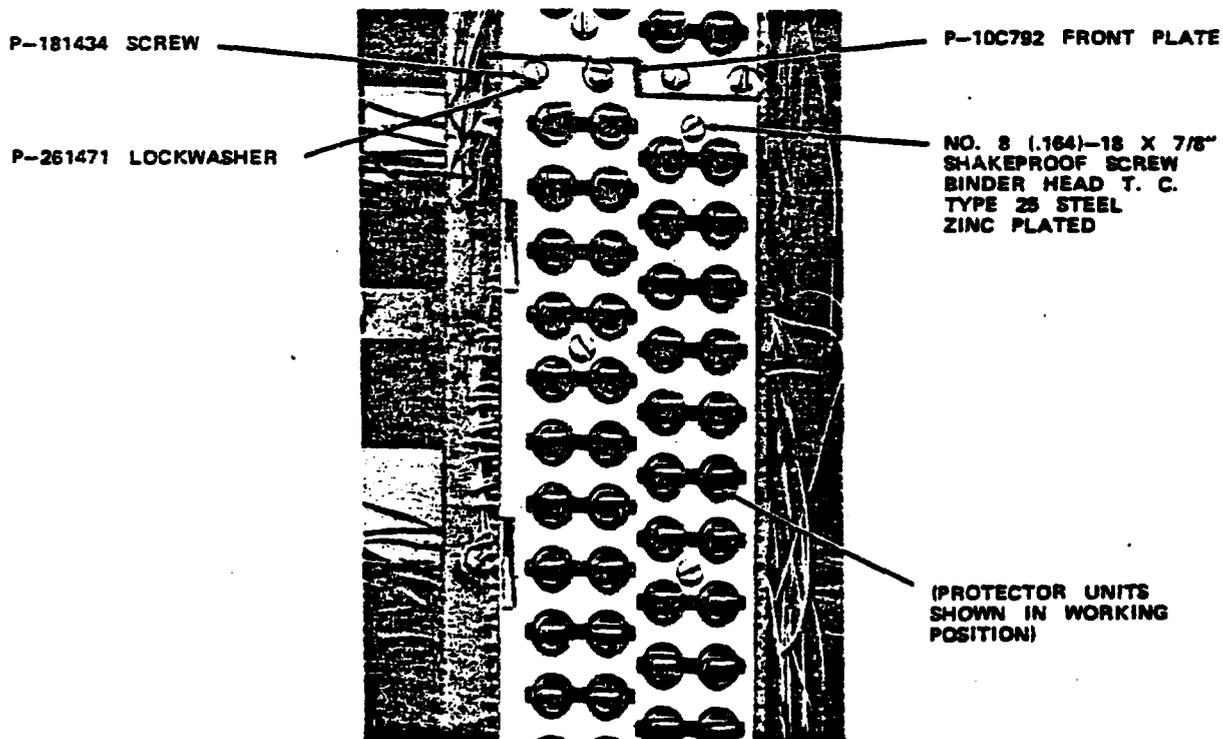
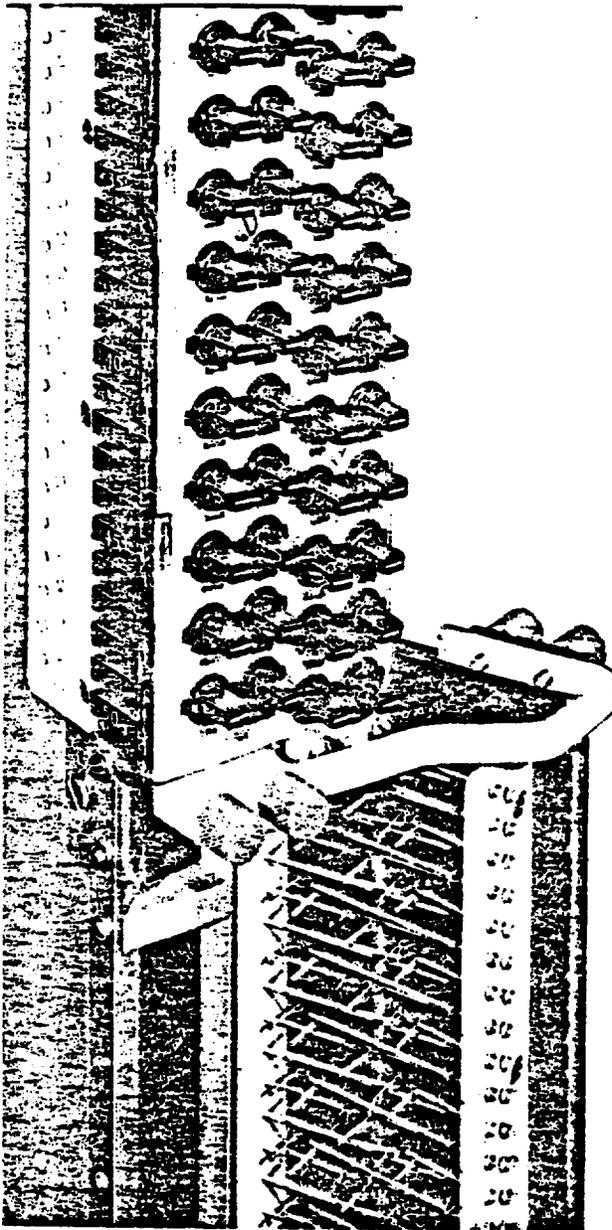

Fig. 1—Front View of Connector
Fig. 2—738 Bracket Supporting a 300-Type Connector
1.08 A design change on the 300-type connector eliminates the aluminum finger-type holders (Fig. 1) and replaces it with a prestenciled holder which is molded as a part of the phenolic block (Fig. 2).
3.01 A front view of the 300-type connector and replaceable parts are shown in Fig. 1. Internal parts such as cross-connect terminals, test contact terminals, and springs are shown in other figures throughout this section.
3.02 To make any replacement of parts, a 50-pair section of the connector must be removed from the frame. Remove the screws that attach the faceplate of the connector to the mounting brackets. Rotate the connector toward the fanning strip. Attach the 73B bracket to the top of the connector unit and to the mounting bracket as shown in Fig. 2. The superseded 73A bracket is installed in the same manner but cannot be used on 300-type connectors.